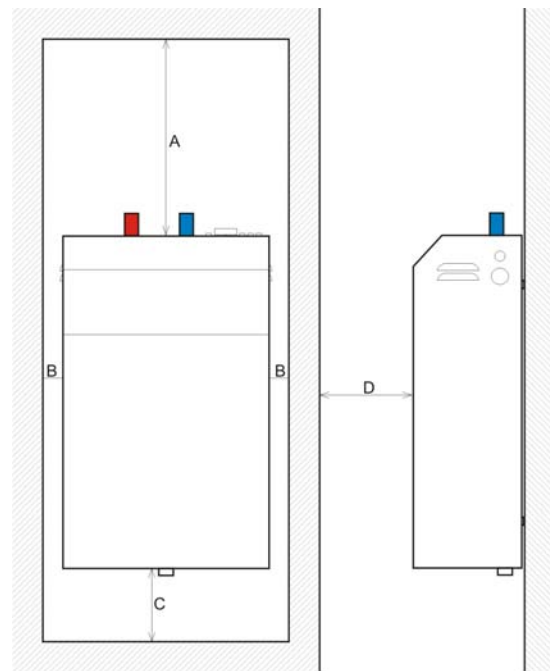

Figure 2: Minimum distances when installing
- Place boiler on a wall with free space as illustrated in the Figure 2
- ④ Drill holes according to dimensions in the Figure 2.
- ④ Place plastic anchors into drilled holes and enclosed in the package (or those adequate for nonstandard wall)
- ④ Screw enclosed bolts into the anchors (or some other kind) and leave them out of wall min 5mm and max 10mm
- ④ Hang device carefully on the wall
- ④ Make sure that boiler is in vertical position
- ④ Fix the boiler on the wall with mounting set and bolt.